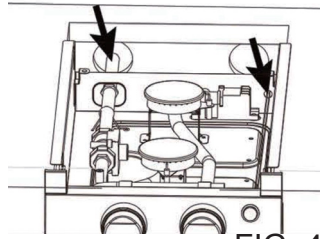

FIG. 4
4. Connect a gas supply line with a shut-off valve and 5/8-18UNF connection to the cooktop through the gas cavity on the upper-left rear corner of the cabinet. Connect a 12V, not 110V, power supply wire to the appliance from the upper right-rear corner of the cabinet. (Fig. 4)